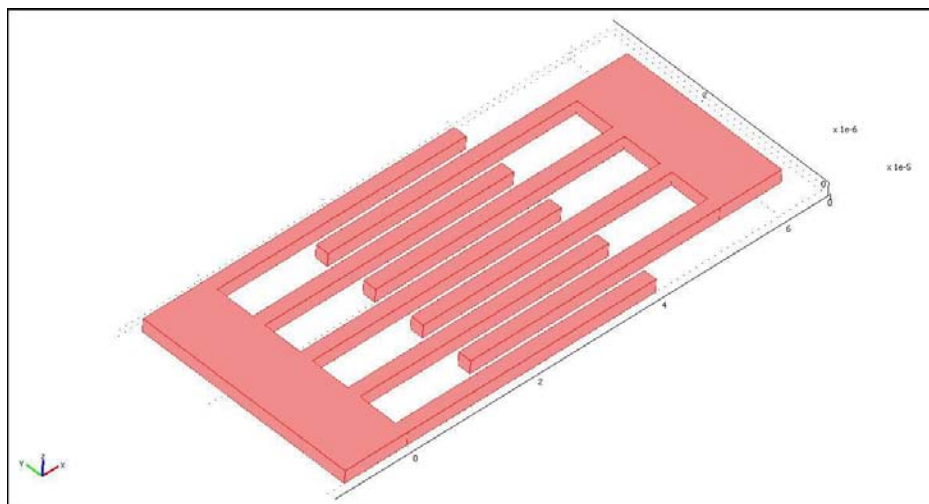

Figure 9
2. Type in 2×10^{-6} in the distance field. The distance field corresponds to the height of the comb in the 3D geometry. This value can change based on the application of the capacitive sensor. The 3D comb drive can be seen in Figure 9 below.